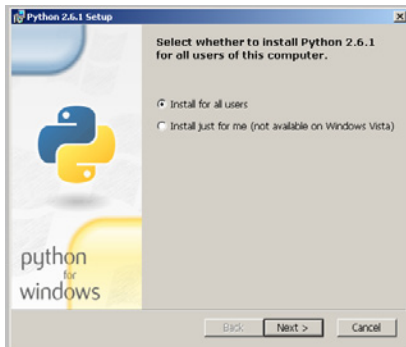

Figure 5-17. Click Next to proceed through the installation
1. Select "Install for all users," and then click Next (Figure 5-17).